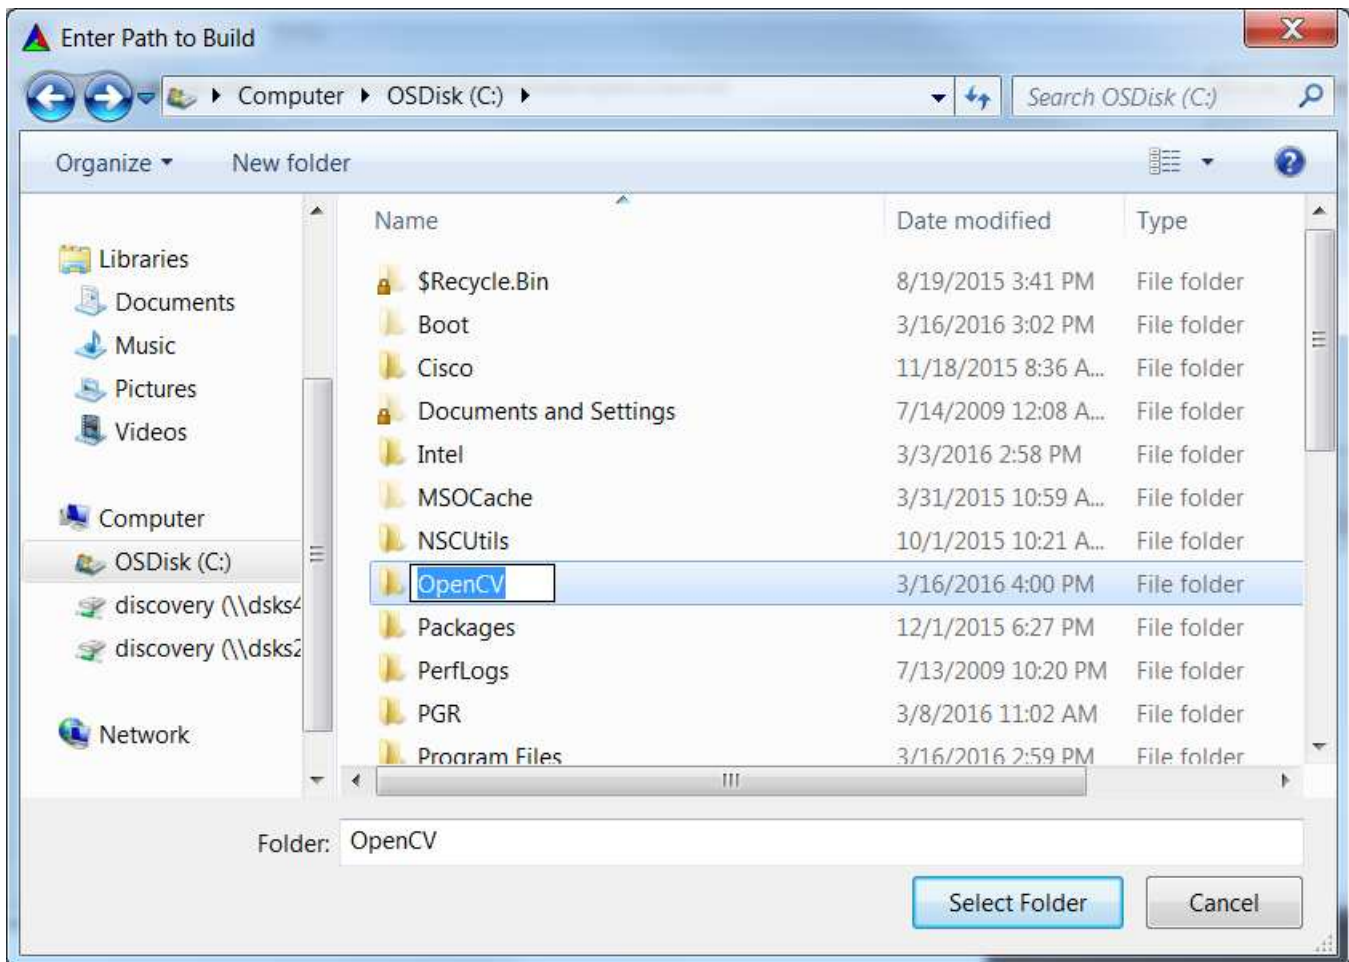

Figure 26. Build New Folder
6. Click “Browse Build” and create a new folder for the built OpenCV files as shown in Figure 26.